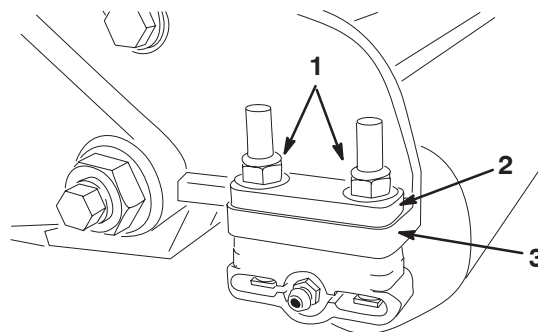

Figure 21
8. Remove the (2) nuts securing each roller bracket to the side plates (Fig. 21). Do not remove the bolts. **Also, remove any 1/4 inch spacers positioned on the top side of the side plate mounting flange.**